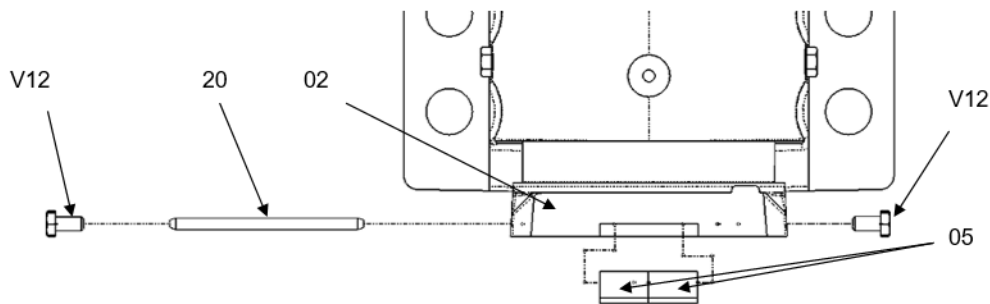

Fig. 5.2
2. Remove the 4 screws **V12** Fig. 5.2.